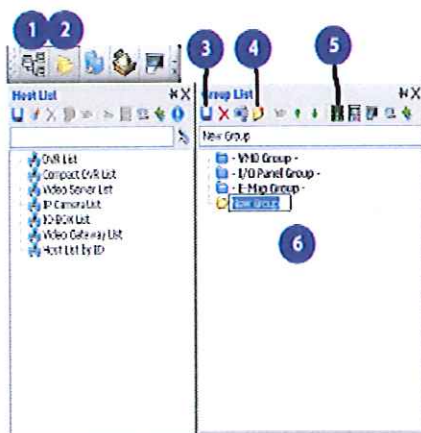

Figure 3.3 – Host and Group List Expanded
- I. Open the Host List (#1, Figure 3.3) and the Group List (#2, Figure 3.3).
- II. Create a new group by clicking on the New button (#4, Figure 3.3), and name the group, based on what cameras you intend to display in the Matrix (examples would be: Doors, Halls, All Cameras, Outside, etc.)
- VI. When you are finished creating a group, be sure to save the Group List by pressing the Save button (#3, Figure 3.3).
- VII. To view your matrix, left click on the Group you want to view in the Group List window (#6, Figure 3.3) and either right click and select Matrix, or click the Matrix button on the Group List (#5, Figure 3.3).
Repeat steps II through VII until you have completed all the groups you wish to create. Remember to save your Groups! (#3, Figure 3.3).